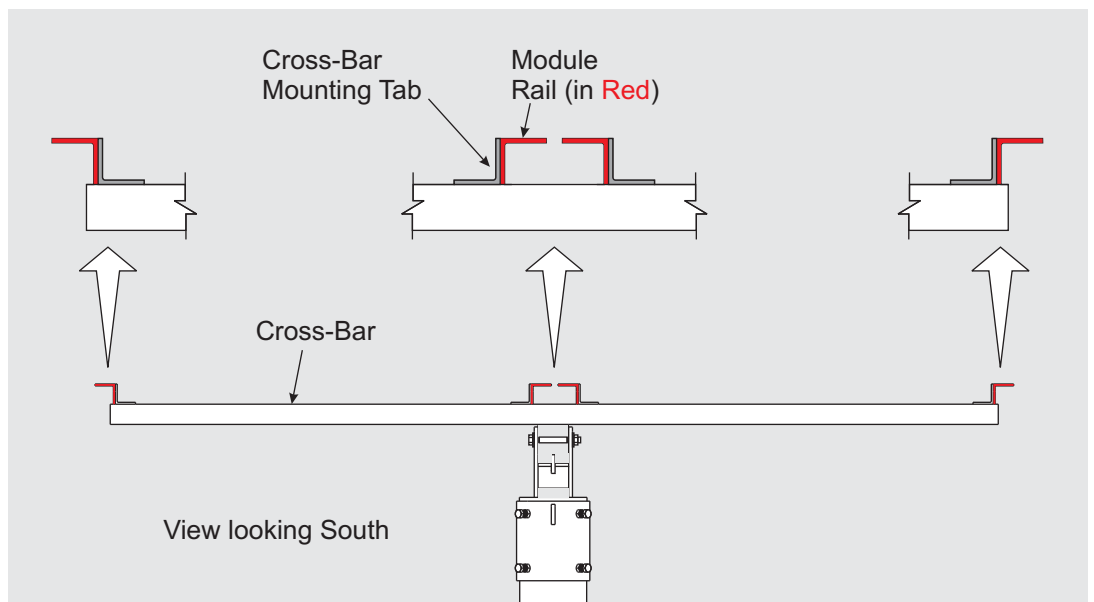
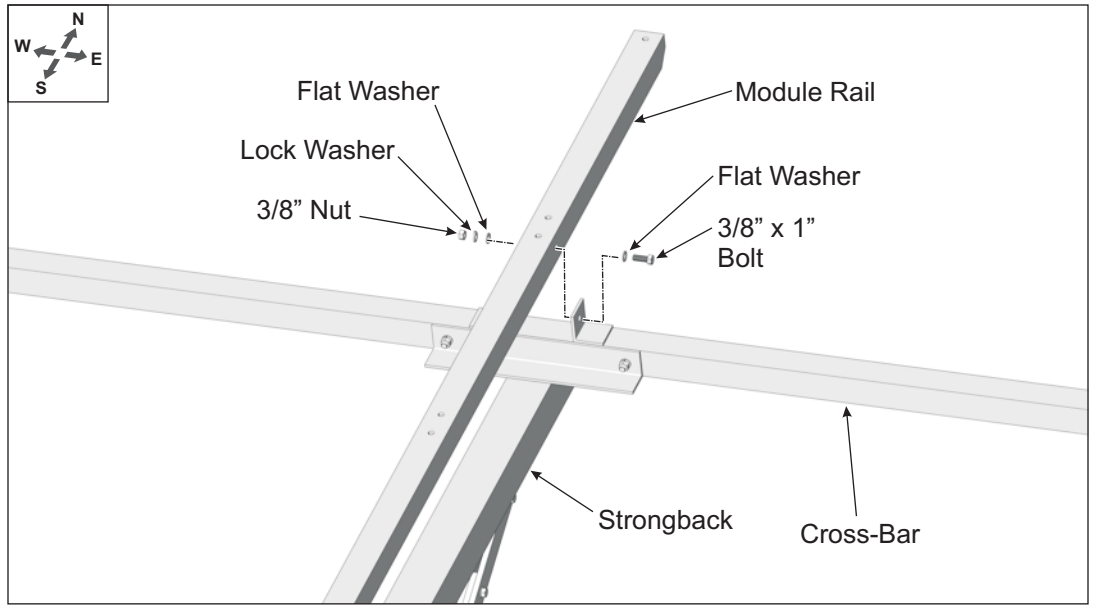

Figure 4-1: Orientation of Module Rails to Cross-Bars
Figure 4-2: Installing the Inboard Module Rails to Cross-Bars
Module Rails are installed differently depending on whether they are mounted inboard or outboard on the Cross-Bars; see Fig 4-1 below.
- A. Referring to Figure 4-1 for orientation of the Module Rails, position and align the Module Rail mounting holes with the holes of the Cross-Bar mounting tabs and secure with 3/8" x 1" bolts and hardware. Finger-tighten for now. (see Figure 4-2)
- A. Referring to Figure 4-1 for orientation of the outboard Module Rails, position and align the Module Rail mounting holes with the holes of the Cross-Bar mounting tabs and secure with 3/8" x 1" bolts and hardware. Finger-tighten for now.